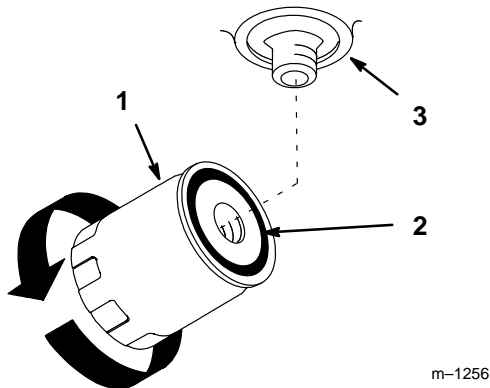

Figure 38
4. Apply a thin coat hydro fluid to the rubber gasket on the replacement filter (Fig. 38).
7. When fluid overflows filter turn the oil filter clockwise until the rubber gasket contacts the filter adapter, then tighten the filter an additional 1/2 turn (Fig. 38).